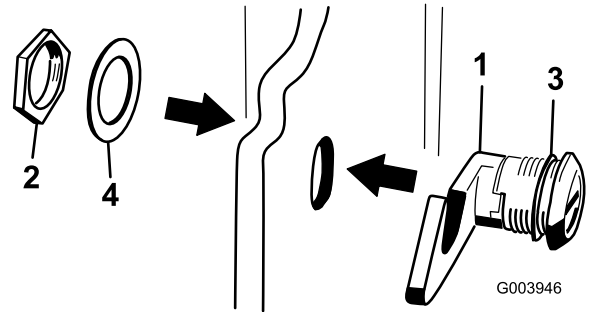

Figure 6
3. Remove the nut from the hood-latch assembly (Figure 6).
4. On the outside of the hood, insert the hook end of the latch through the hole in the hood and ensure that the rubber-sealing washer remains to the outer side of the hood (Figure 6).